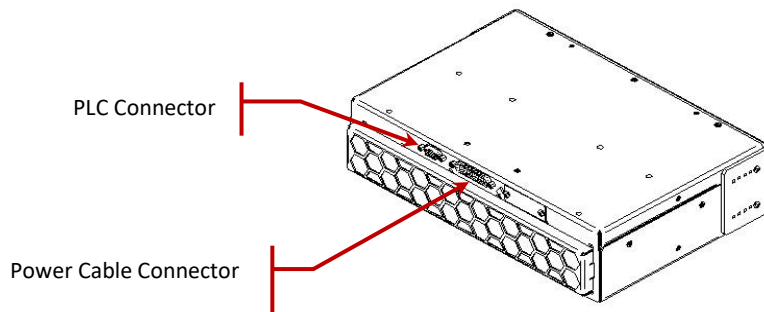

Figure 1 UV LED Head Connection Ports
3. Attach the male end of the power cable to the power supply unit and connect the female end of the power cable to the UV LED Head per Figure 1.